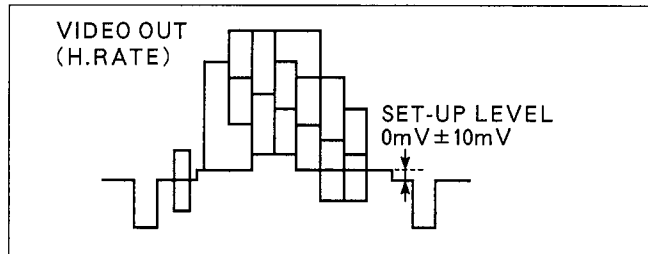

Figure E18
2. Adjust VR8201 so that the set-up level becomes $0\text{mV} \pm 10\text{mV}$ as shown in Figure E18.